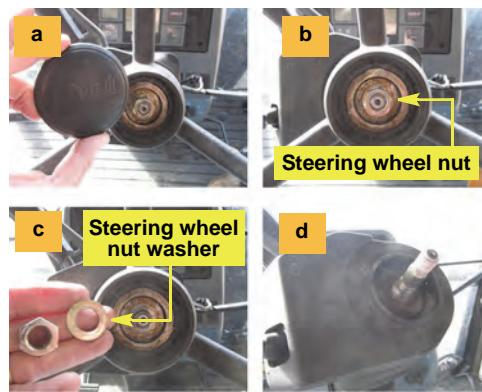
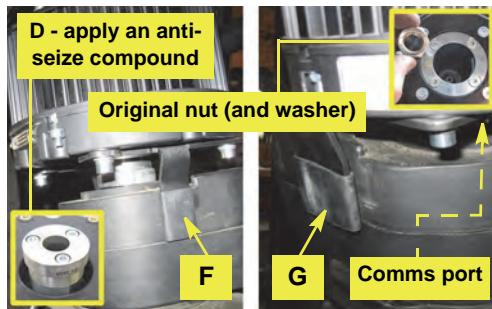

Figure 3 (a-d): Steering wheel removal
Figure 4a (left and right) with insets: Steering wheel and anti-rotation brackets installation
- Remove the center cap from the steering wheel to expose the steering wheel nut (Figures 3-a and 3-b).
- a. Apply a small amount of an anti-seize compound (not supplied) to the splines of spline adapter **D** (Figure 4a left, inset), then, carefully aligning the splines with those on the steering shaft, slide the steering wheel assembly—comms port to the right—onto the shaft (Figures 4a and 4b).
Using the machine's original steering wheel nut and washer (see Figure 3-c), secure the steering wheel (Figure 4a right, inset).